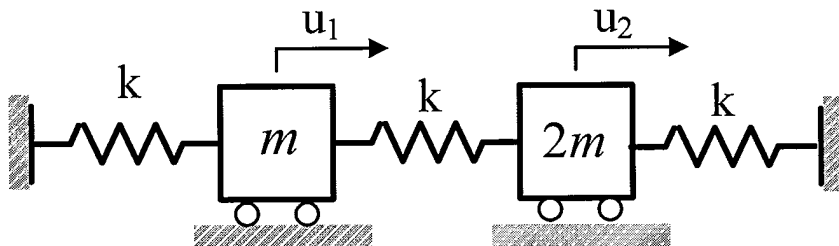
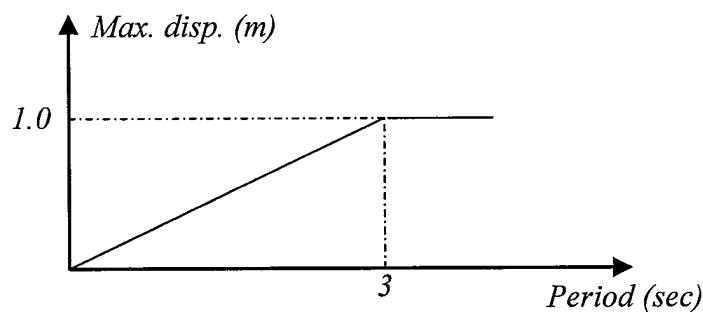

Fig. 3a
Fig. 3b
3. Please find the max. displacements (u_1 and u_2) of the system (Fig. 3a) under the earthquake design-response-spectrum as shown in Fig. 3b. Solve this problem by using the square-root-of-sum-of-squares rule. (Given $m = 20 \text{ Ton}$ and $k = 100 \text{ kN/m}$) (50%)